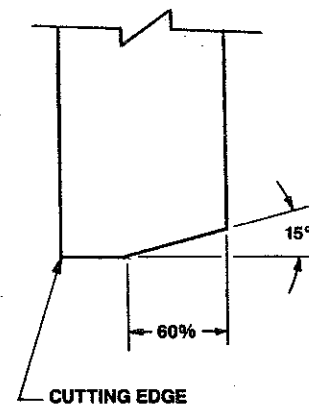

FIG. 91
- F. Infeed grinding wheel so that approximately 50% of the reel blade will be ground. It is recommended that 60% of the reel blade be relief ground when finished. (See FIG. 91)